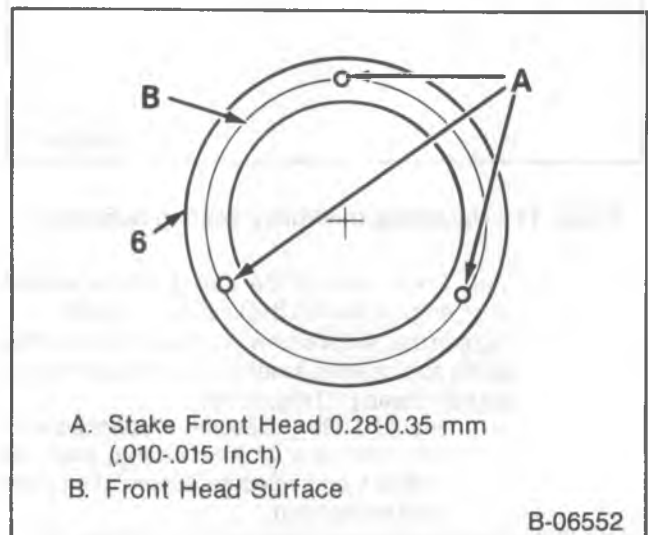

Figure 20 — Staking Locations on the Front Head
- Stake size should be one half the area of the punch tip and 0.28-0.35 mm (0.010-0.015-inch) deep (figure 20).
3. Pulley (5).
4. Clutch plate and hub assembly (2).